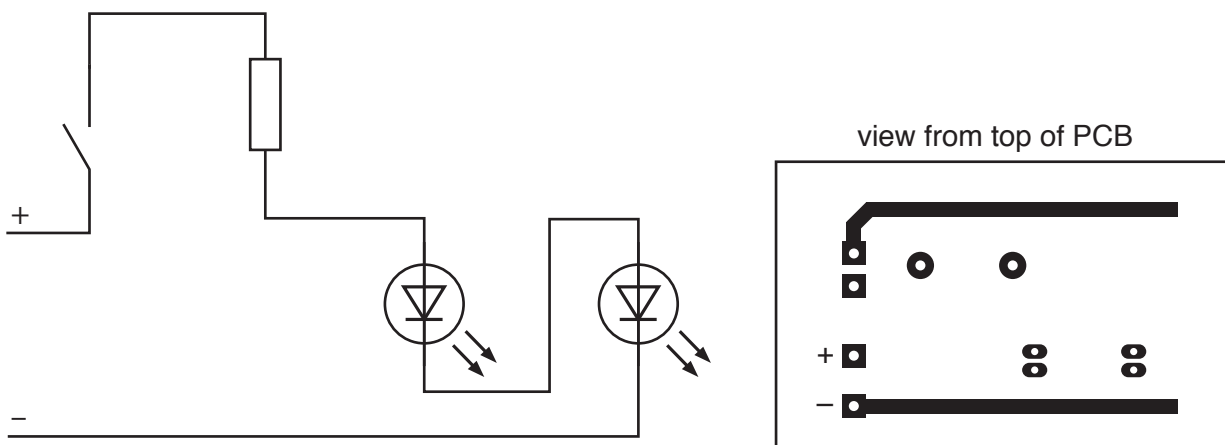

Fig. 16
- (c) (i) Fig. 16 shows a circuit diagram and the start of a PCB layout for an LED lamp that uses two LEDs in series.